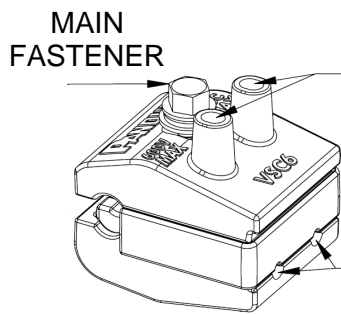

FIGURE 2
STEP 4: Review Connector Features (see FIGURE 2 and FIGURE 2*) STEP 5: Loosen factory-tightened MAIN FASTENER (see FIGURE 2)